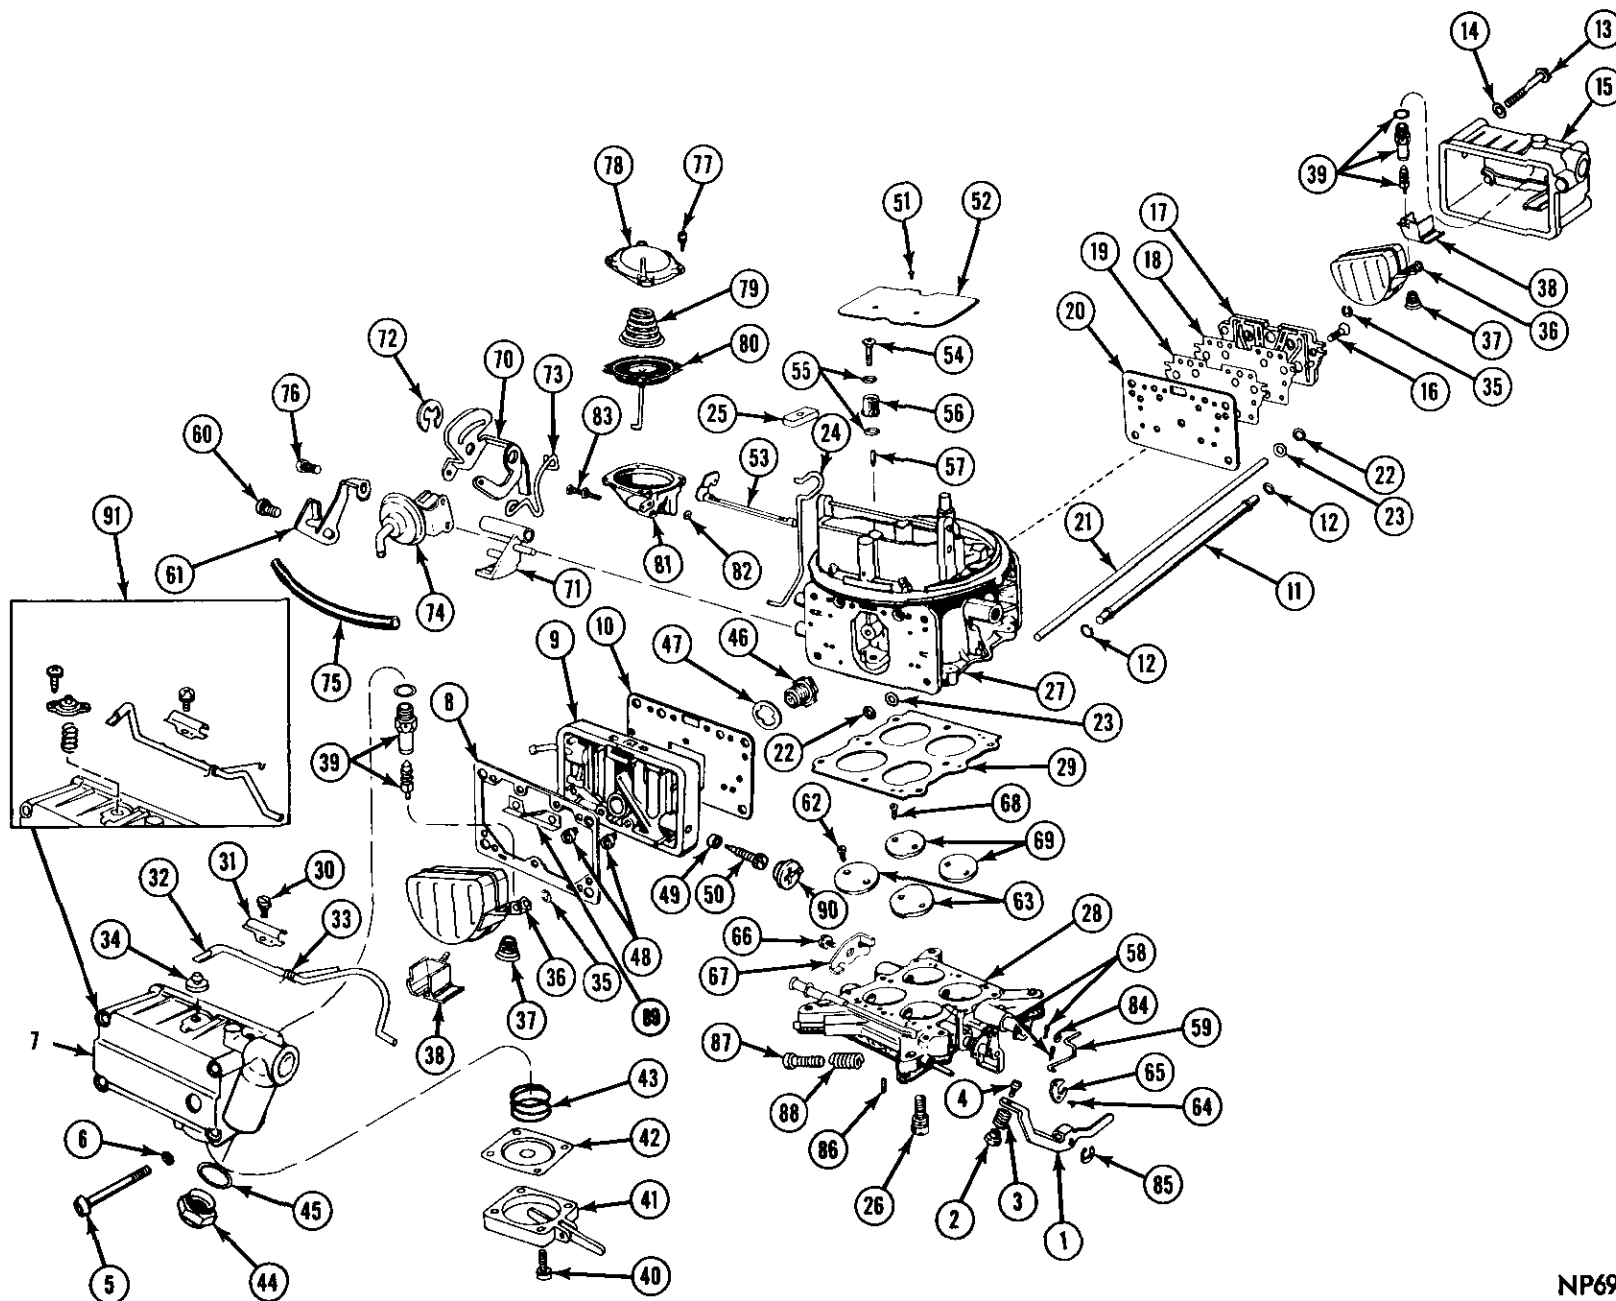

Fig. 1—Carburetor Assembly (Exploded View)
(2) Remove float retainer "E" clip, then slide float and spring out of float chamber. (As float is being removed, the fuel inlet needle may drop out of seat assembly.) Remove float baffle.
(3) Remove fuel inlet needle valve seat. Discard the gasket.
(4) Remove screws attaching accelerator pump cover. Remove cover, then carefully remove diaphragm and spring.
(5) Remove fuel inlet fitting and discard gasket.
(6) Remove screws attaching bowl vent valve cover to fuel bowl. Lift off cover and remove vent valve, spring and seal. (Fig. 1). Remove seal from bottom of valve.